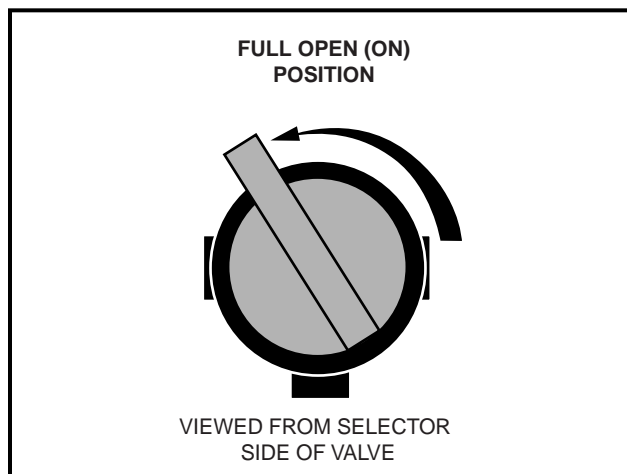
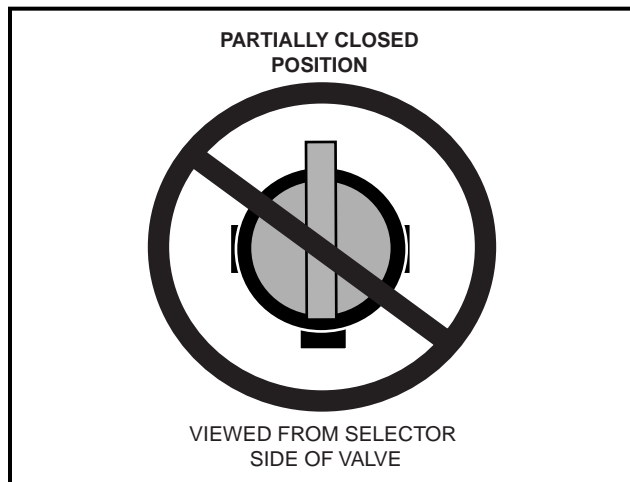

Figure 13 Open Fuel Shut-off Valve
Figure 14 Partially Closed Fuel Shut-off Valve
- 1.1. Remove plug from the fuel tank vent nipple and connect the vent line to the nipple. Open fuel shut-off valve. Make sure the valve is fully open (**Figure 13, Page 12**). A partially closed fuel valve (**Figure 14, Page 13**) combined with the use of the choke, can result in a fouled spark plug and engine failure.